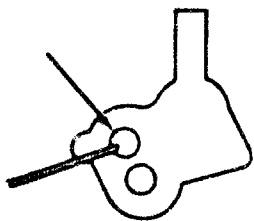

Fig. 1
2. Hook small end of spring into front most carburetor lever hole (fig. 1). Then insert governor rod into carburetor lever and install retaining clip.